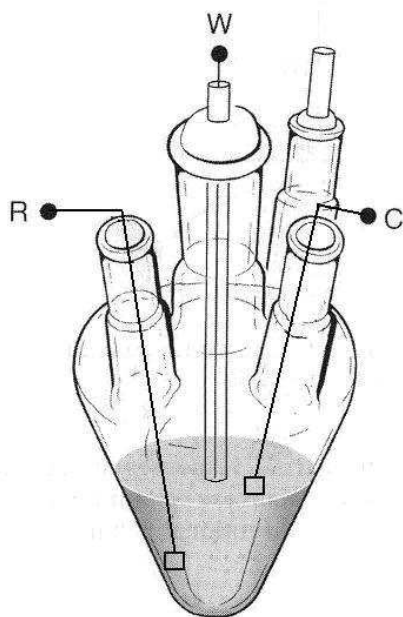

Fig. 2: Experimental electrochemical cell.
- Assemble the apparatus according to the schematics (Fig. 2).